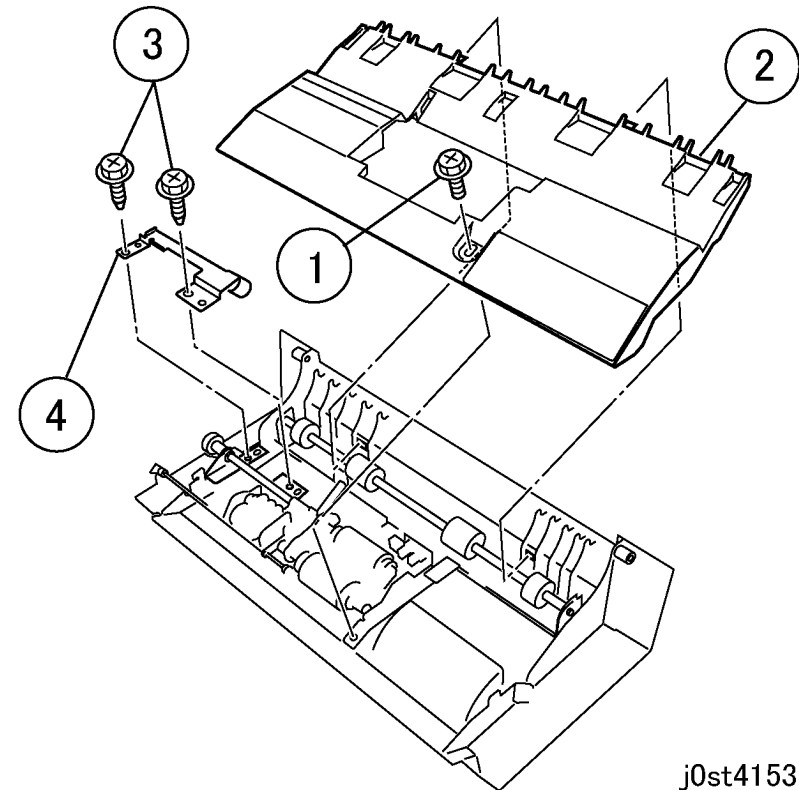

Figure 7 Removing the Feed Upper Chute and Plate Spring (j0st41538)
2. Remove the Feed Upper Chute and Plate Spring from the new Top Cover Assembly. (Figure 7)